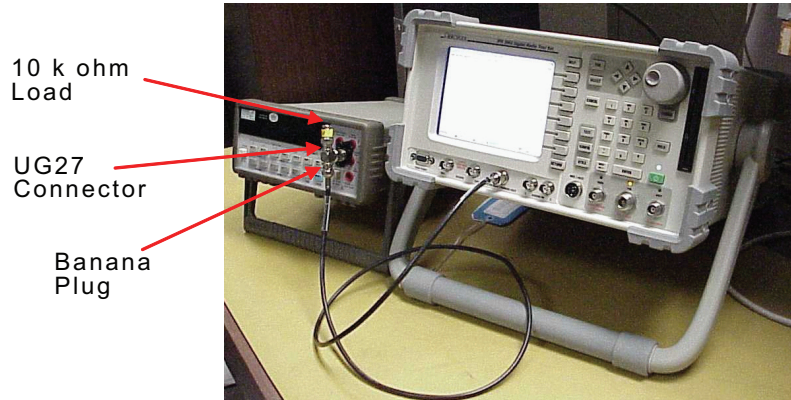

Fig. 4-35 Function Generator Calibration Setup
3.	Configure Equipment. Refer to Fig. 4-35 as needed.